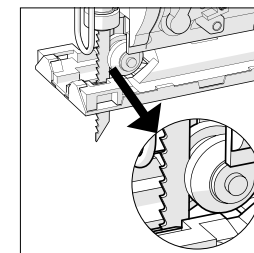

Fig 2
- Check to ensure that the back of the blade has engaged into the groove in the guide roller. **(Fig. 2)**